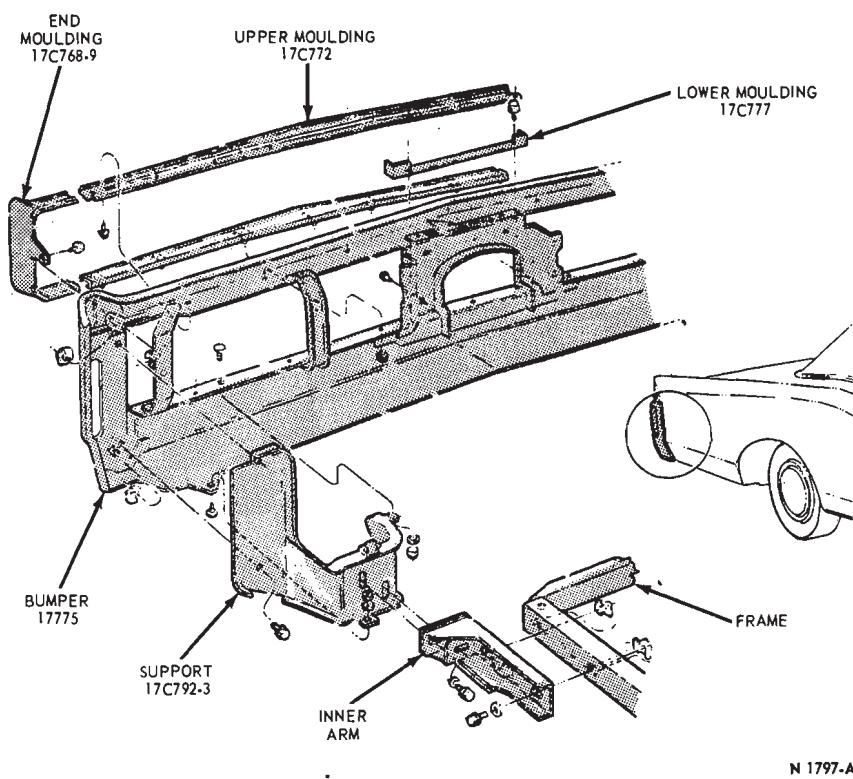

FIG. 19—Lincoln Continental Rear Bumper
5. Remove the bolts retaining the bumper arms to the frame side rails (Fig. 19). With an assistant, remove the bumper from the vehicle.